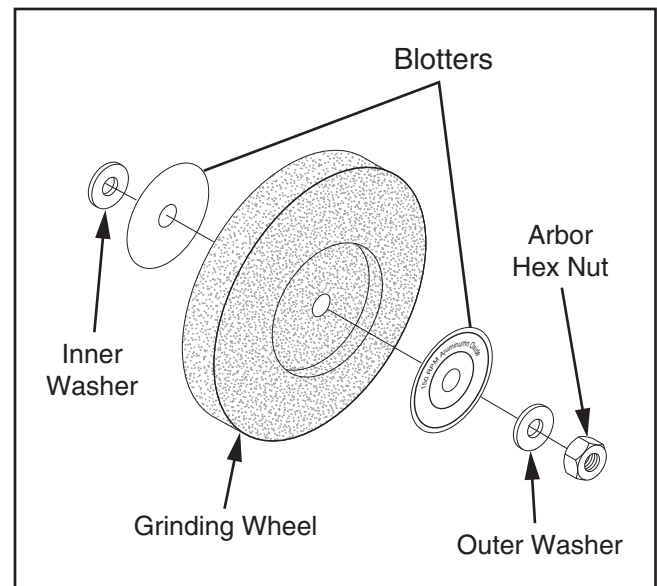

Figure 21. Assembly order for wheel installation.
5. Mount new grinding wheel in order shown in **Figure 21**. Tighten arbor hex nut snugly but do not over-tighten. Over-tightening can stress and crack wheel.